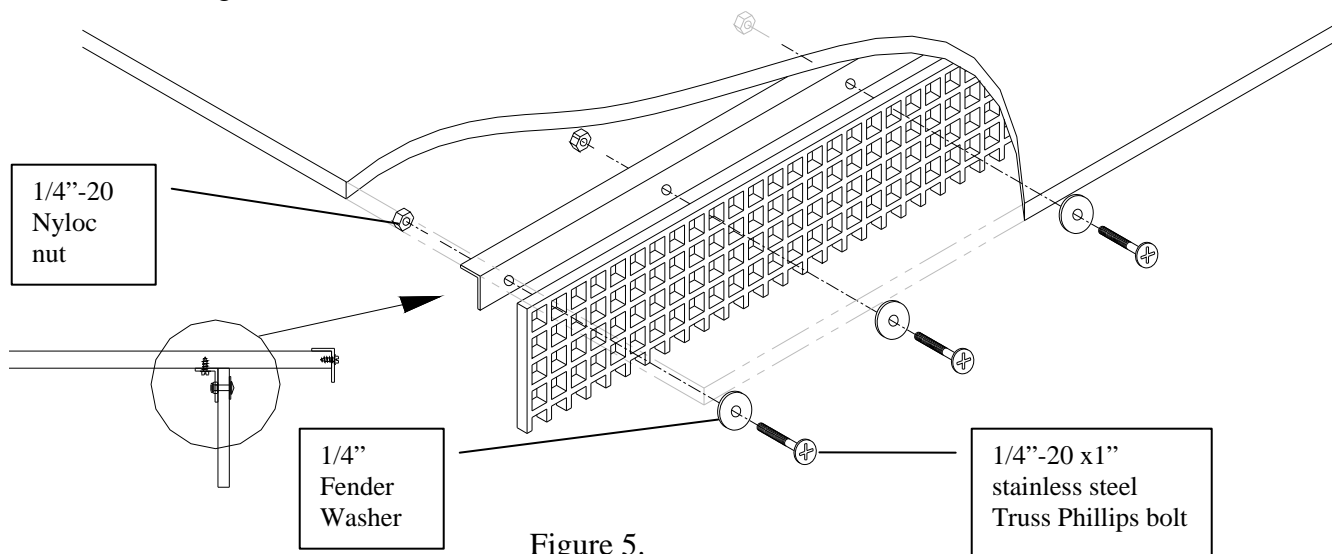

Figure 5.
6. Attach the grid front support to the angle on the bottom of the rest bench using the supplied hardware. See Figure 5.